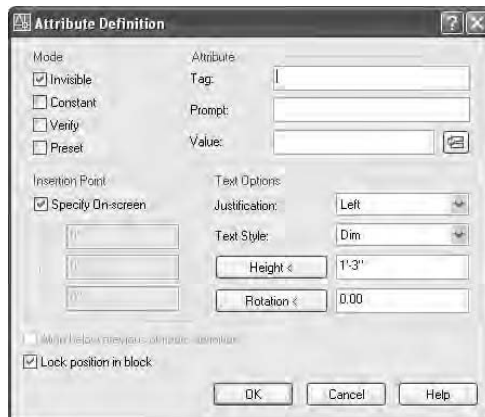

FIGURE B.21: The Attribute Definition dialog box
2. Choose Draw > Block > Define Attributes. The Attribute Definition dialog box opens (see Figure B.21).